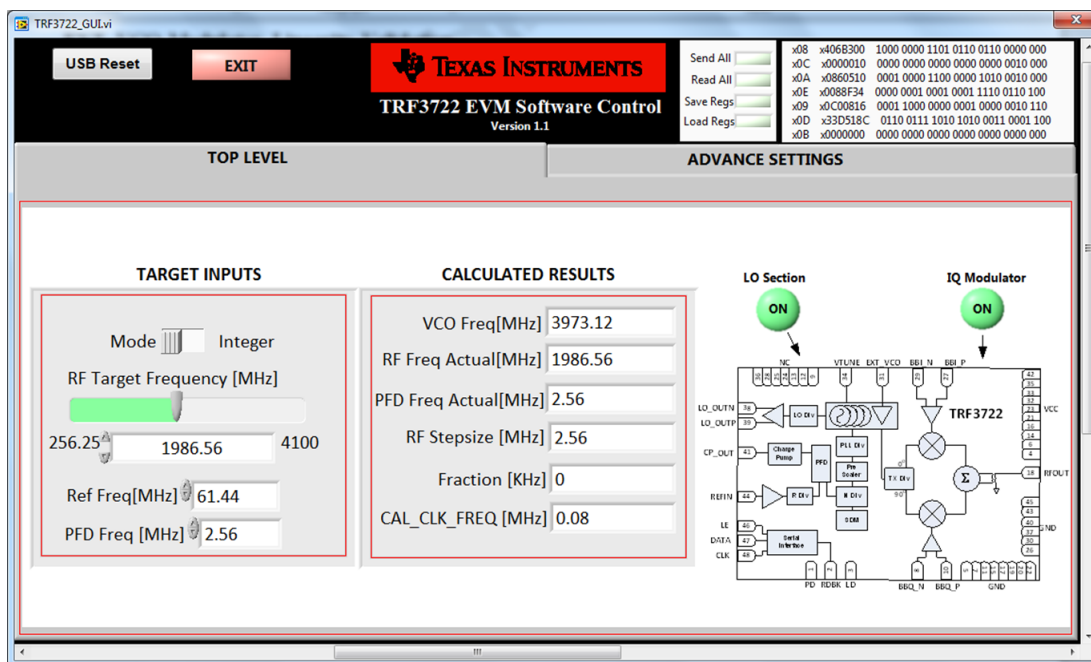
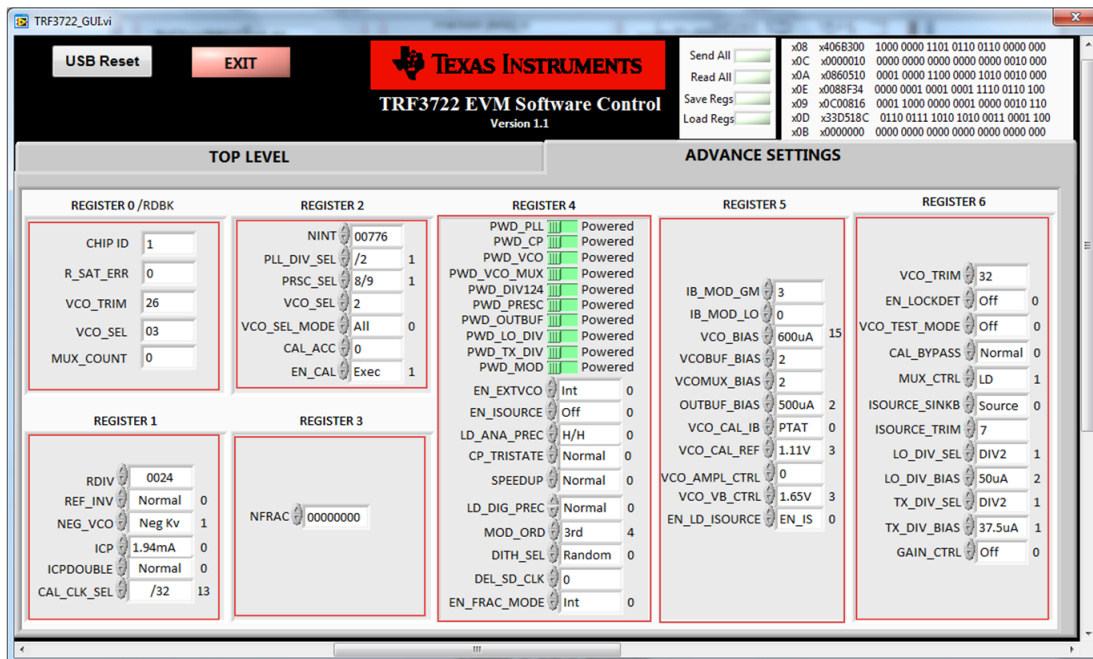

Figure 6. GUI Settings (a)
Figure 7. GUI Settings (b)
8. Set the GUI as shown in Figure 6 and Figure 7.
- This is the typical current consumption with the GUI settings shown in Figure 6 and Figure 7, adjusting various bias settings in register 5 and register 6 change this current.